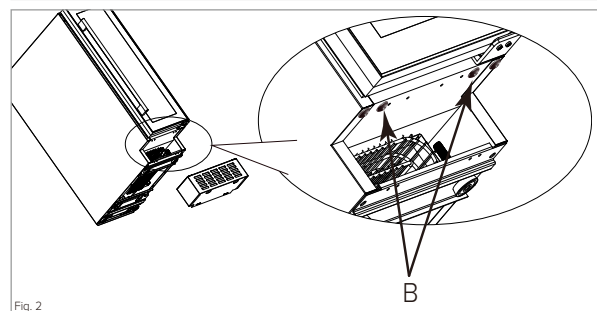

Fig. 2
- If there are screws marked as 'B' (shown in Fig. 2), remove these as they are not needed.